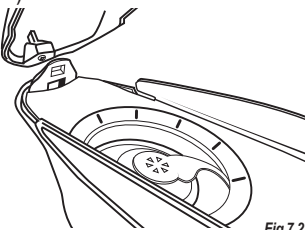

Fig 7.2
3. Match the hook on the front of the Upper Shell to the loop on the Lower Shell (Fig 7.2).